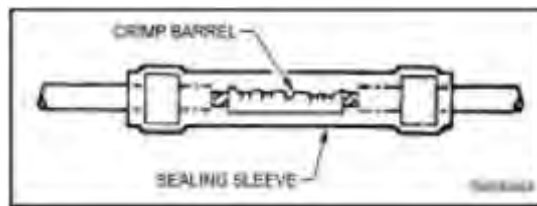

Figure 203
20. Center primary wire heat sleeve over splice as shown in Figure 203.